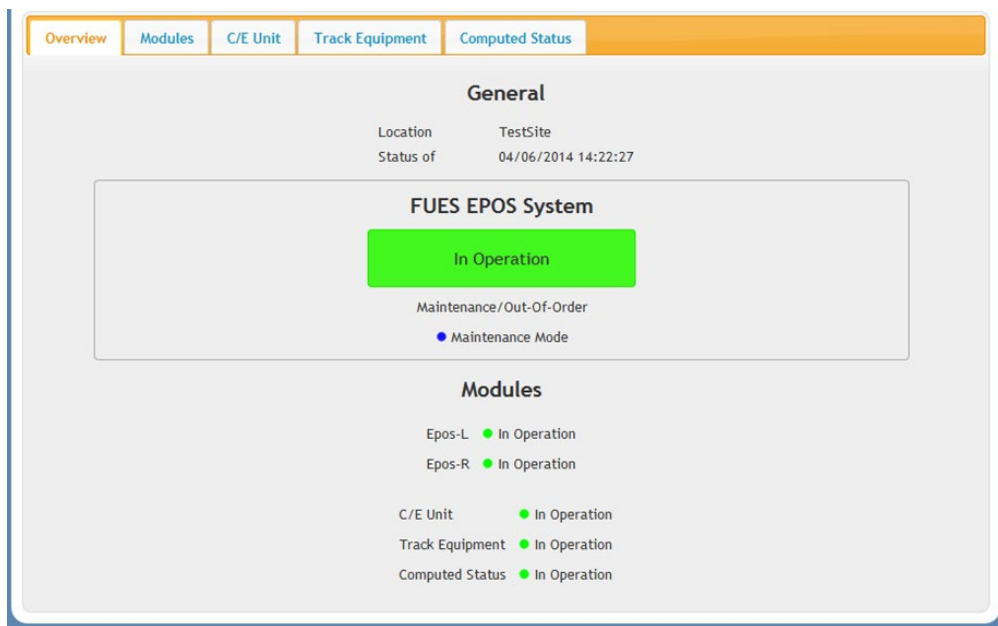

Figure 10 - System Status – Overview
- a) Are the rubber mounts (end stops) of the shutter segment cracked or worn? See Figure 10.
- 6.8 Confirm the black surface of the reference heating surface Figure 10 item (d) is undamaged, any damage shall be reported to your SM(S).